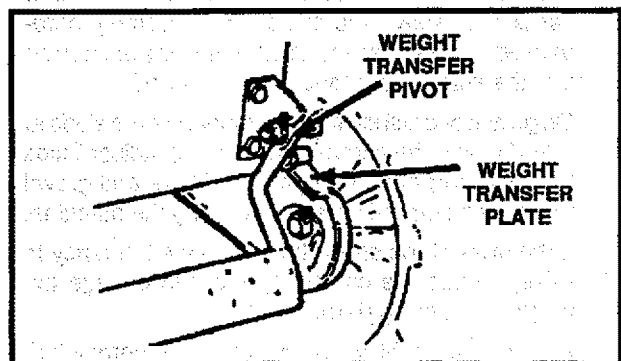

FIG. 17
- Weight Transfer System - Coat weight transfer plate (See Fig. 17) with clinging type grease, such as lubriplate, every ten (10) hours and before storage.